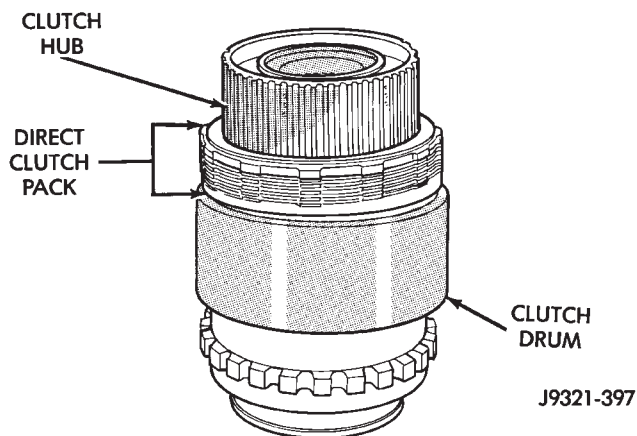

Fig. 225 Direct Clutch Pack And Clutch Hub Installation
(19) Install clutch hub and clutch pack on direct clutch spring (Fig. 225). **Be sure hub is started on sun gear splines before proceeding.**